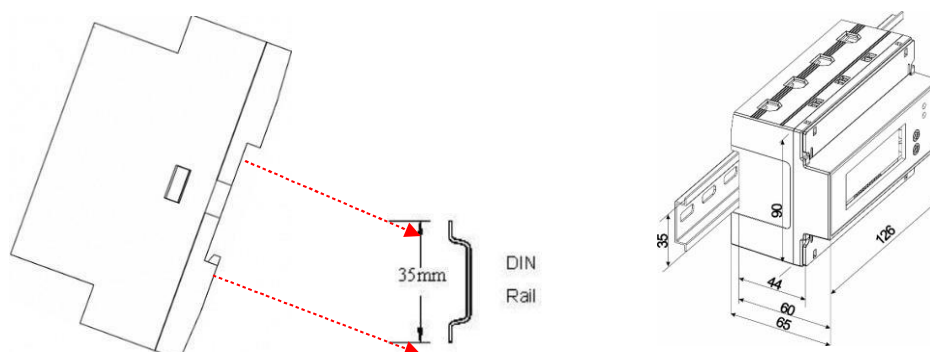

Figure 2-4 Installation
- Align the top of the mounting channel at the back of the IPD3100C / IPD3005C at an angle against the top of the DIN rail as shown in Figure 2-4 below